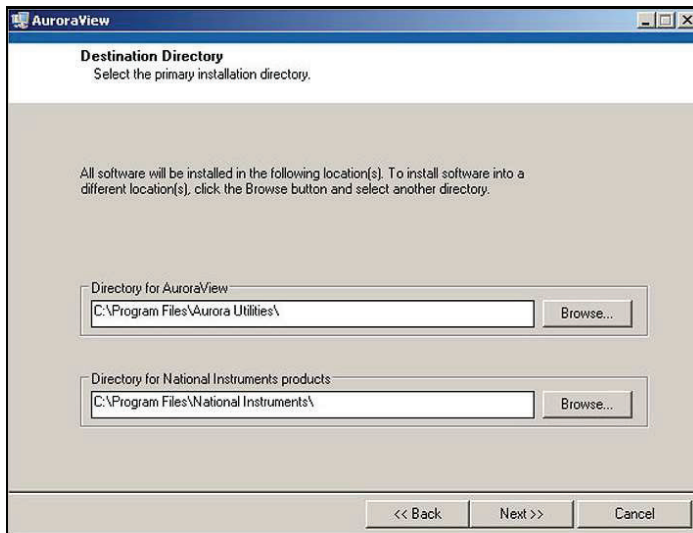

Figure 23: Destination directory
5. The next screen (see *Figure 23* below) provides the opportunity to change installation locations if desired. When ready, click **Next**.